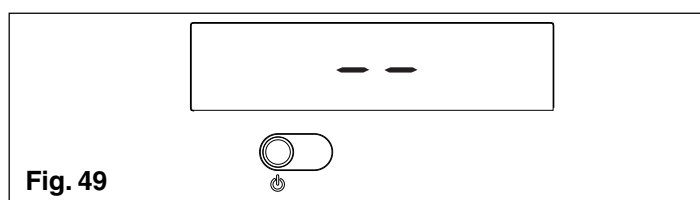

Fig. 49
- ⚠ The boiler turns on in the status it was in before it was switched off: if the boiler was in the winter mode when it was switched off, it will turn on again in the winter mode. If it was in the OFF mode, the display will show two segments in the central area (fig. 49). Press the button to enable operation.
For brief absences press the button to switch off the boiler. The display will show two segments in the central area (fig. 49). When the boiler remains powered with the gas tap open, it is protected by the following systems:
For prolonged absences press the button to switch off the boiler (fig. 49). The display will show two segments in the central area. Turn the main switch to “off”.